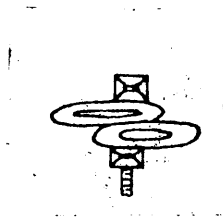

Figure 3.
2. Use a washer under the head and nut of the bolt. (Figure 3).
3. Lap one link over the other and place the bolt through as shown in (Figure 3). Tighten top enough to make the repair stable.